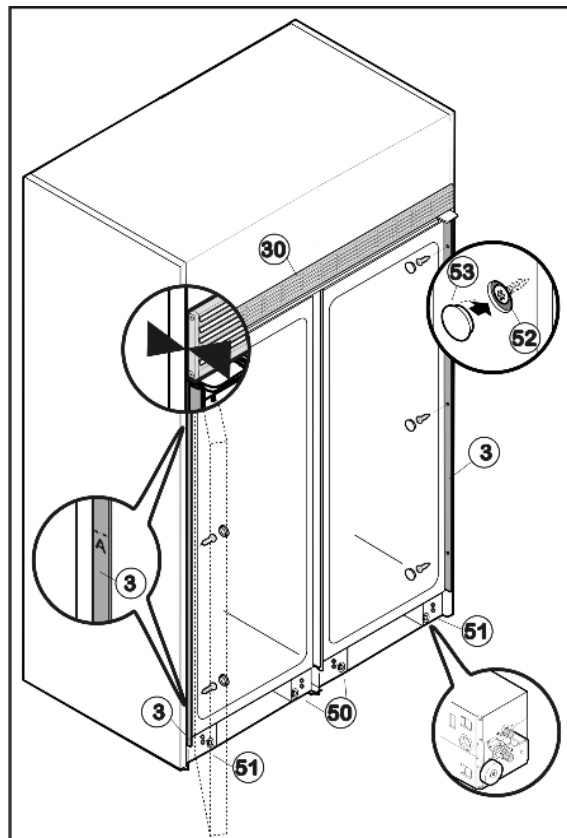

Fig. 71
- ▶ Push the appliance into the recess until the rear edge of the ventilation grille Fig. 71 (30) is flush with the front edge of the side wall of the cabinet.
- ▶ Completely raise the levelling wheels at the front and back of the two center roller bases *Fig. 71 (50)* such that the attached appliances are resting on the outer roller bases only.
- ▶ Align appliance inside the recess by adjusting the outer roller bases *Fig. 71 (51)* and using a spirit level.
- ▶ At the top and bottom of the recess check the gap **A** between the front edge of the installation strip *Fig. 71 (3)* and the front edge of the side wall of the unit. It must be 1/2" (13 mm). Realign the appliance in the recess if required.
- ▶ Secure appliance inside the recess using three screws *Fig. 71 (52)* hinge side of each appliance. Do not scratch the side installation strip *Fig. 71 (3)* when doing so.
- ▶ Place cover caps *Fig. 71 (53)* over the screws.
- ▶ Being careful not to affect the level, lower the levelling wheels in the center roller bases *Fig. 71 (50)* until they are resting on the floor.
- ▶ Fit lower ventilation grille *Fig. 71 (54)* flush with the floor such that the rubber lip is at the top. It is held in place via magnets.